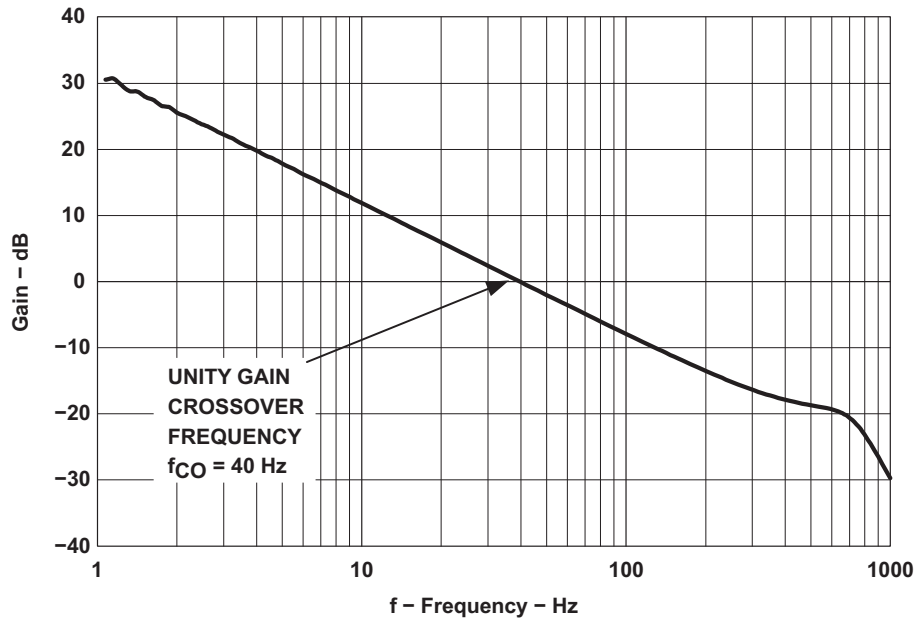

Figure 8. Power Module Bode Plot
Using the configuration in Figure 7, measure the unity-gain crossover frequency of the power modules to be paralleled. A typical resultant bode plot is shown in Figure 8.
The total load-share loop unity-gain crossover frequency,  $f_{CO}$ , must be set at least one decade below the measured crossover frequency of the paralleled modules previously measured,  $f_{CO(module)}$ . (See Figure 8) Compensation of the transconductance error amplifier is accomplished by placing the compensation resistor,  $R_{EAO}$ , and capacitor,  $C_{EAO}$ , between EAO and GND. The values of these components is determined using Equation 8 and Equation 13.
- $G_{MODULE}(f_{CO})$  is the measured value of the gain from Figure 8, at the desired crossover frequency.